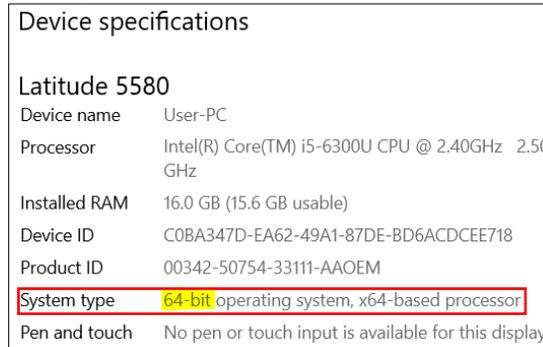

Figure 13: About Your PC, Locating System Type 64 or 32-Bit
9. Once selected look into the System Type for the operating system. It will be either 32-bit or 64-bit application. Figure 13 is an example of a 64-bit system.